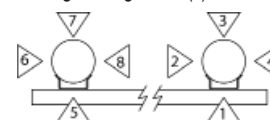

Figure 1: Control Quadrants
Step 8. Select control mechanism quadrant (see fig. 1): _____